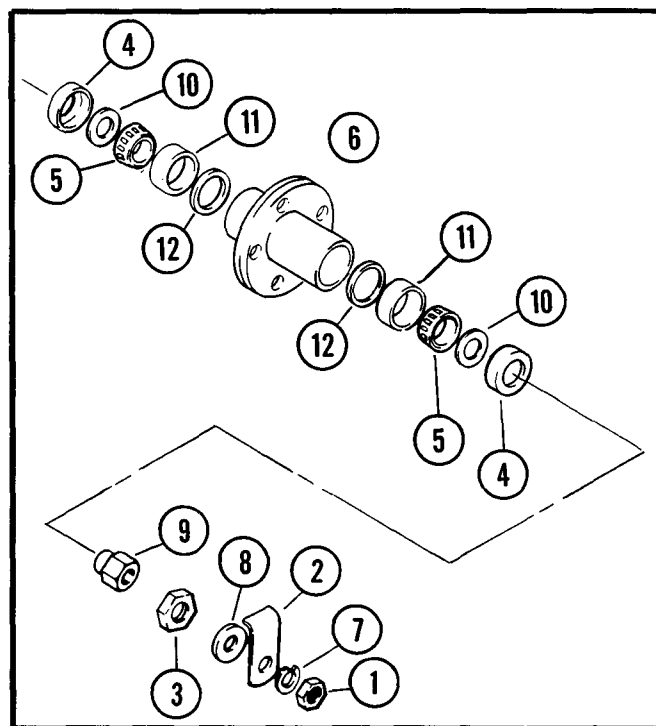

Figure 10.
3. Remove the front wheel and hub assembly by removing the axle nut, lock washer and turning the axle lock to let the axle assembly slide from the fork sidearm assembly. See Figure 10.